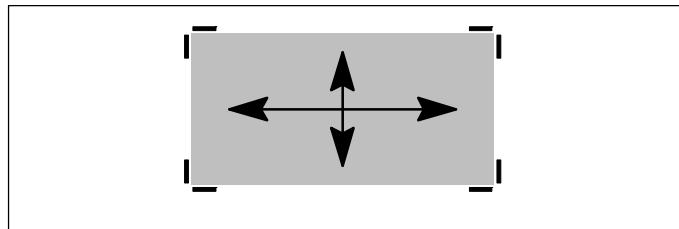

Fig. 6.5    *Setting the maximum permissible lateral displacements*
*Before loading (driving onto) the platform for the first time, set the stops (Fig. 6.5) so that the permissible inclination or lateral displacement of the load cells cannot be exceeded (see Dimensions in Chapter 11, Page 33)! Otherwise, the load cells or load application elements can be damaged.*